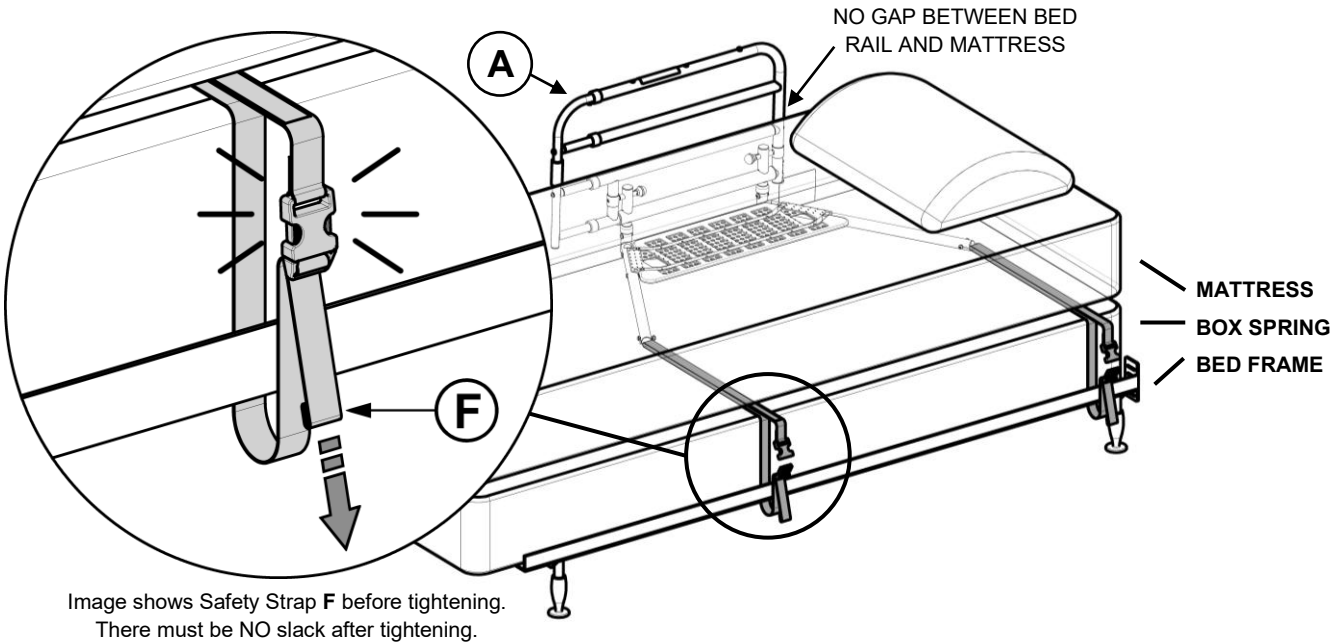

FIGURE 5
5. Place base of product directly under the Mattress and extend the Safety Straps **F** below the Mattress to the opposite side of the Bed. Unbuckle Straps, loop around Bed Frame, re-buckle and tighten both Safety Straps to secure the Bed Rail against the side of the Mattress as shown in *FIGURE 5*. Ensure the Bed Rail is tight against the Mattress without gaps and the Safety Straps have no slack.